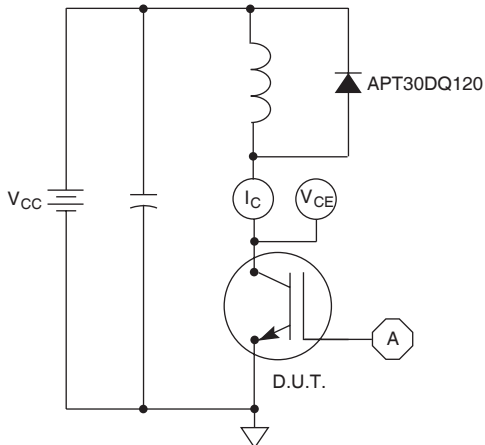

Figure 21, Inductive Switching Test Circuit
- ⑤  $E_{on2}$  is the clamped inductive turn-on energy that includes a commutating diode reverse recovery current in the IGBT turn-on switching loss. (See Figures 21, 22.)
- ⑥  $E_{off}$  is the clamped inductive turn-off energy measured in accordance with JEDEC standard JESD24-1. (See Figures 21, 23.)
- ⑦  $R_G$  is external gate resistance, not including  $R_{Gint}$  nor gate driver impedance.
- ⑧ Continuous current limited by package lead temperature.